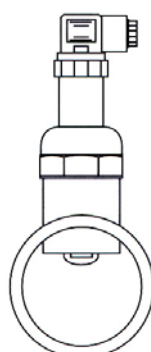

FIG. 2
- Fig. 2: installation with no air pockets present